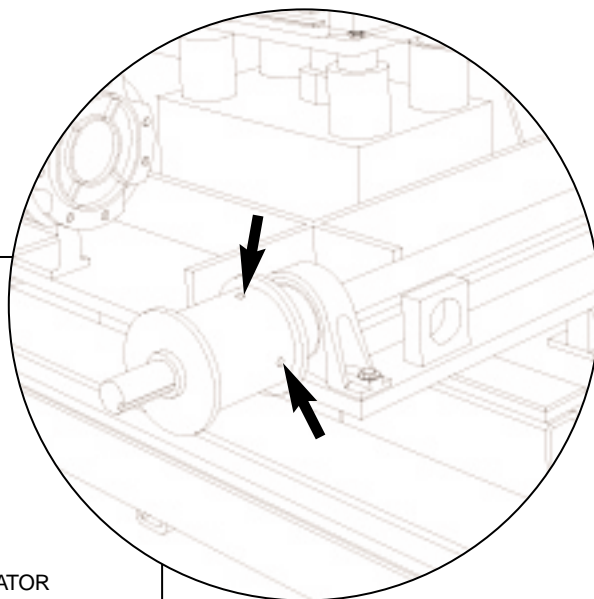

Figure 3.19 STABILIZER
3.4.5.1 On all 4 wheels of each stabilizer, loosen set screw which holds the stabilizer wheel (figure 3.19) to the wheel shaft.